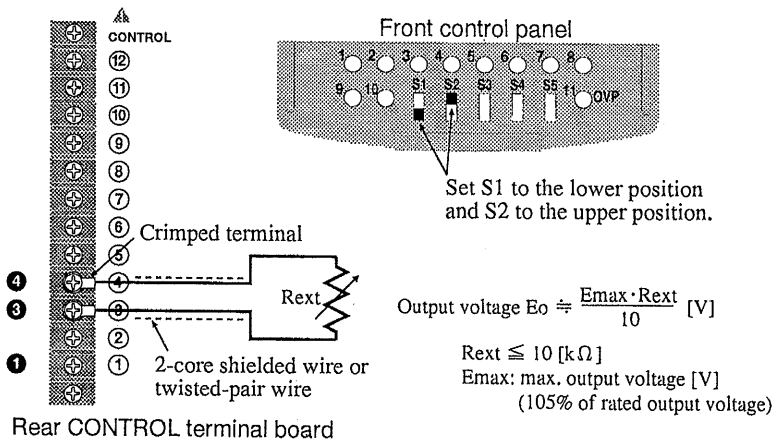

Fig. 3-3 Connection and setup for output voltage control using external resistor
- ① Turn off the OUTPUT switch.
- ② Turn off the POWER switch.
- ③ Set the control switches S1 and S2 as shown in Fig. 3-3.
- ④ Connect an external resistor across the control terminals ③ and ④ as shown in Fig. 3-3.